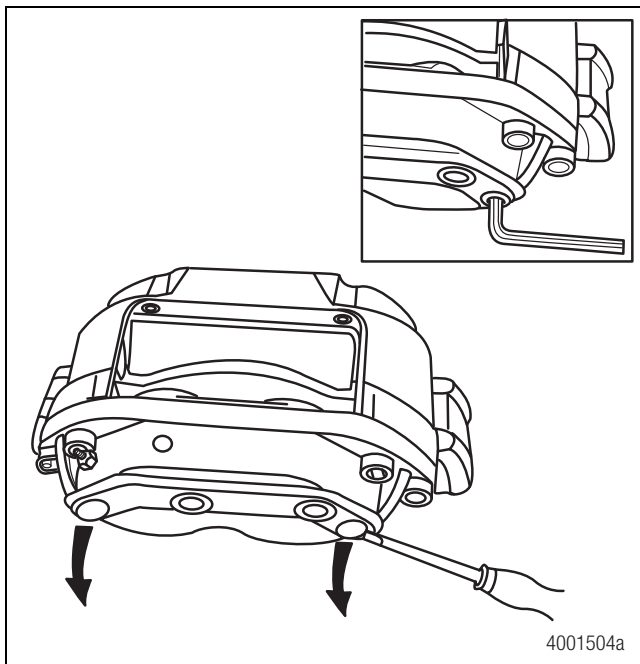

Figure 3.6
1. Remove the guide pin hole caps. Figure 3.6. Loosen both bolts in the carrier.